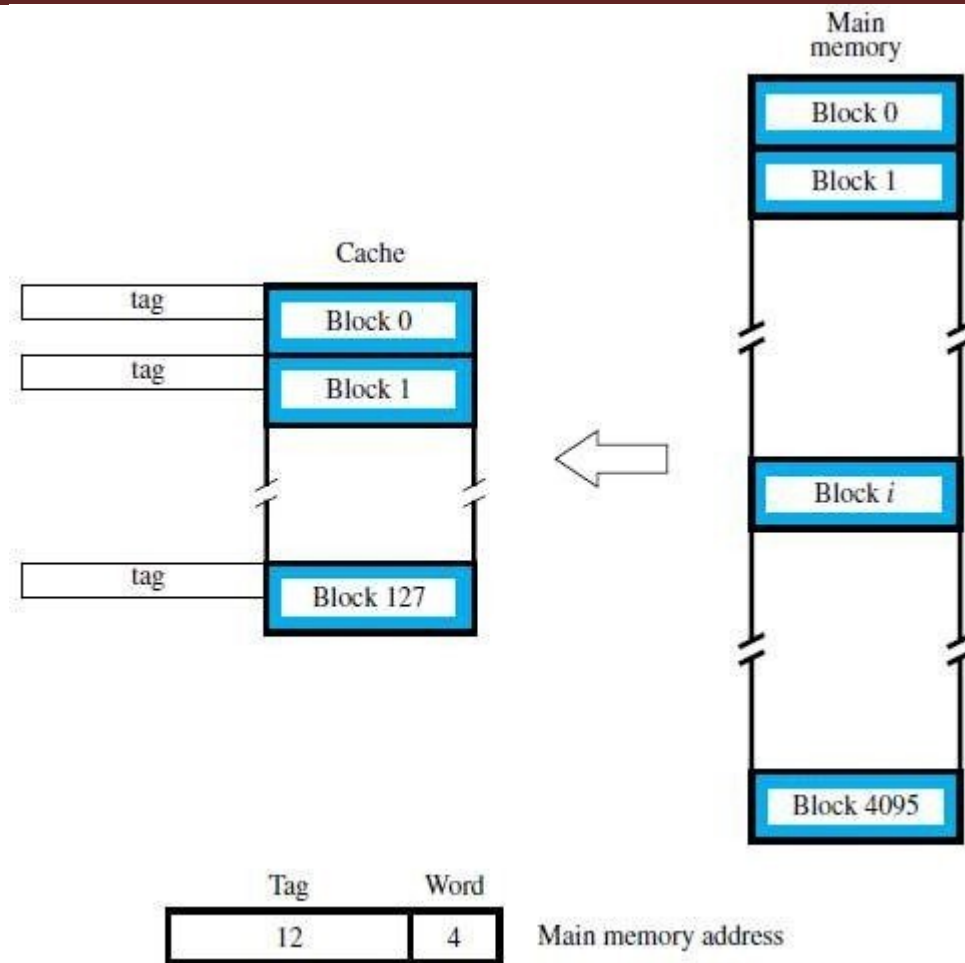

Figure 8.17 Associative-mapped cache.
- The memory-block can be placed into any cache-block position. (Figure 8.17).